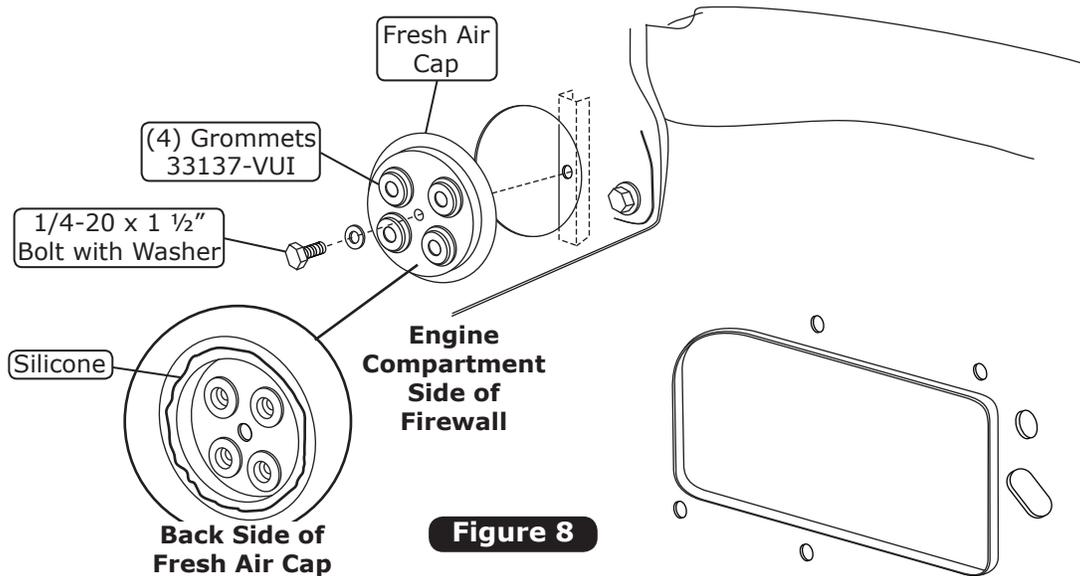

Figure 8
1. Install (4) grommets into fresh air cap (See Figure 8, below).
2. Apply a 1/4" bead of silicone around the back side of the fresh air cap as shown in Figure 8, below.
3. Attach fresh air cap to firewall using a 1/4-20 x 1 1/2" bolt and washer (See Figure 8, below). **NOTE: Fresh air cap installs on the engine side of the firewall.**